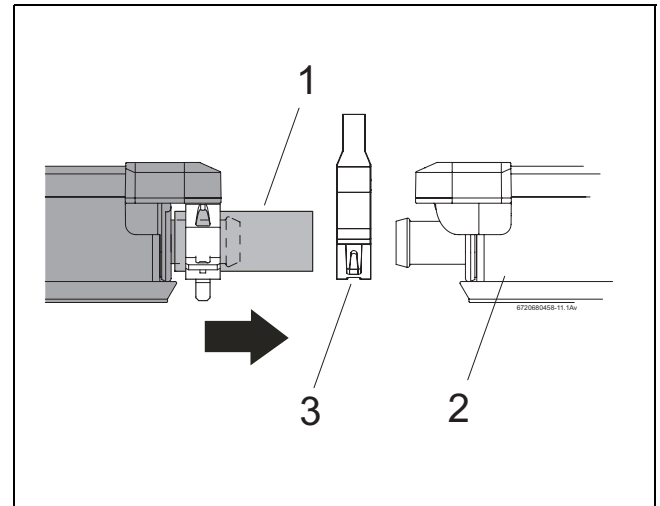

Fig. 45 Pushing second collector towards the first
- Place the second collector with the pre-assembled solar hoses (Fig. 45, [1]) at the top of the profile rails and let it slide into the anti-slip brackets.
- With both connections, push the second hose clip (Fig. 45, [2]) onto the solar hose [1].
- Push the second collector up against the first (Fig. 45, [4]) in such a way that the pre-assembled solar hoses are pushed onto the l.h. connections [3] on the first collector.